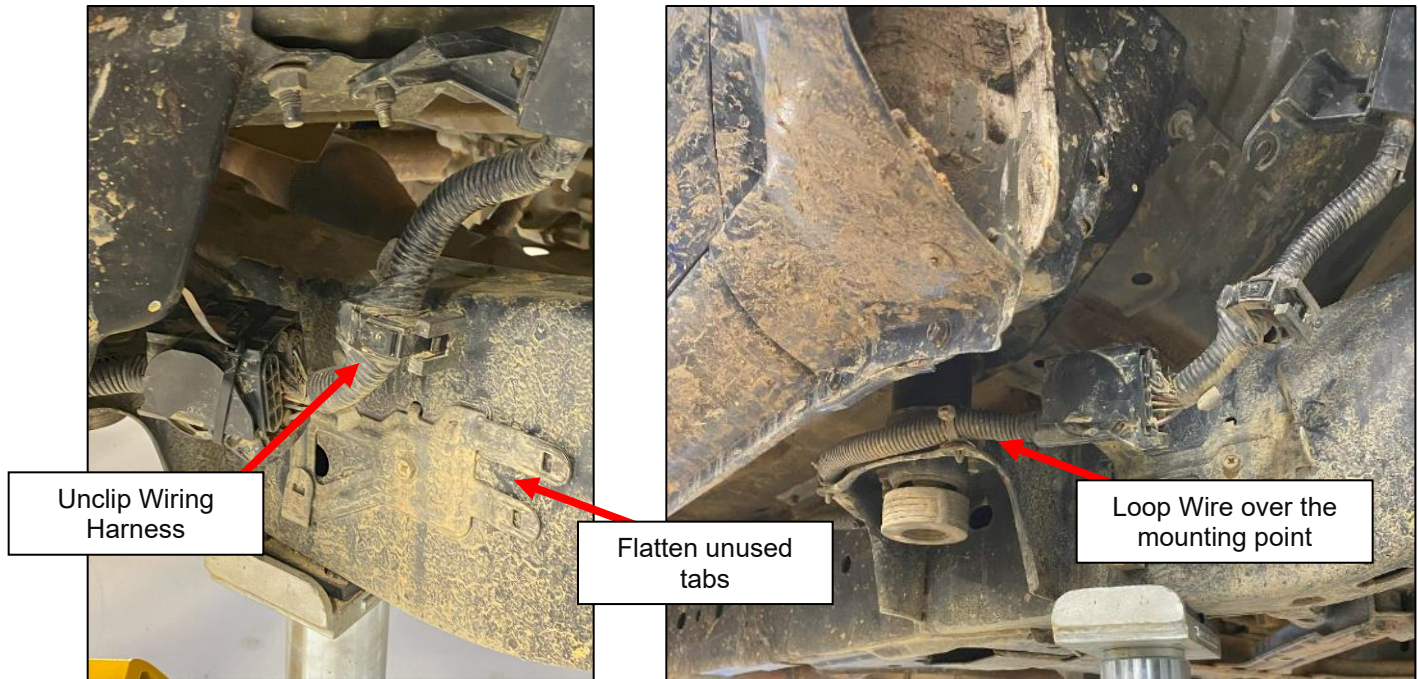

Figure 20
38. Disconnect the clips of the Wiring Harness in the Passenger Side Wheel Well and flip the wiring harness over the Body to Frame mounting point as shown below. The Wiring Harness can be secured with zip ties or the OEM Clips. Using a hammer, flatten any of the unused tabs of the bracket. *Figure 20.*